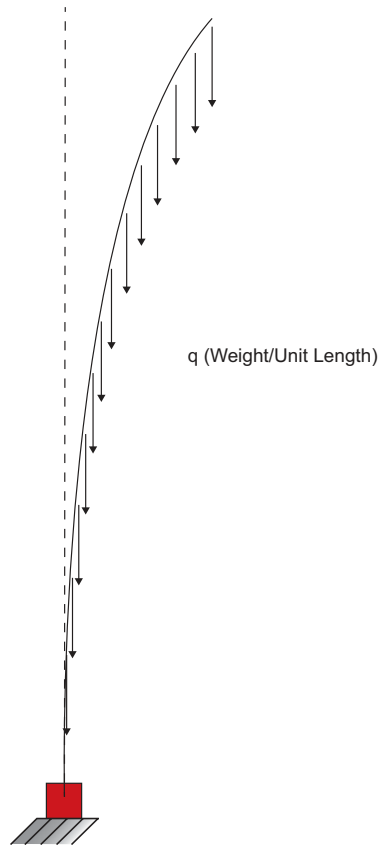

Figure 10: Buckling of a vertical fixed support column (or pipe) under its weight
What happens when the pipe is turned up on its end? Gravity. The weight of the pipe and media inside the pipe will now figure into the calculations. A riser pipe can theoretically collapse under its own weight (Figure 10). The critical load on a vertical pipe with the end fixed is:
Hose and braid expansion joints subject the risers to small reaction forces, so the bottom half of a riser between anchors may be considered a free-standing length of pipe, similar Figure 10. This configuration would then follow a variation of equation (3) for the portion of riser below the expansion joint: